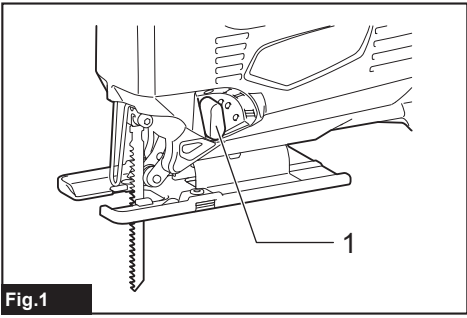

Fig.1
► Fig.1: 1. Cutting action changing lever